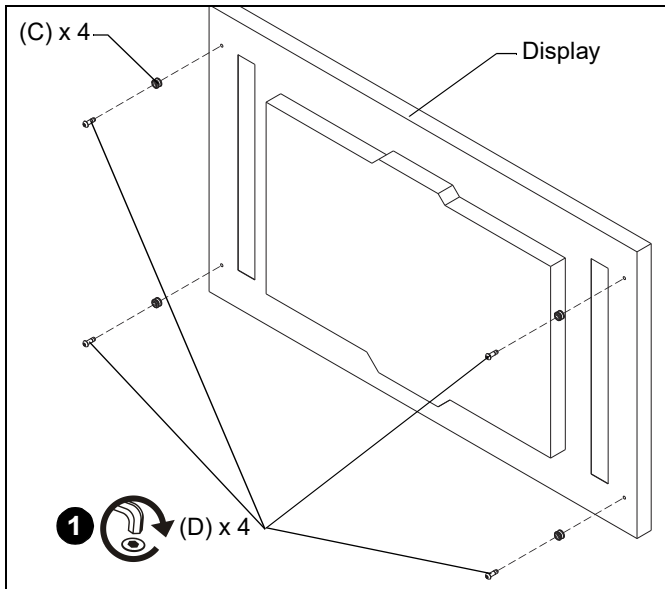

Figure 1
1. Attach four mounting buttons (C) to back of display using four M8 x 25mm button head cap screws (D). (See Figure 1)